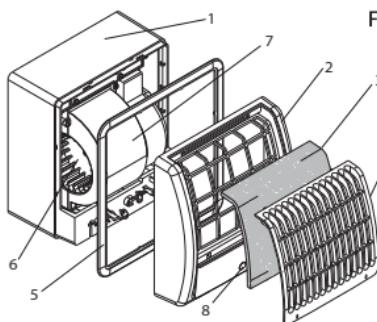
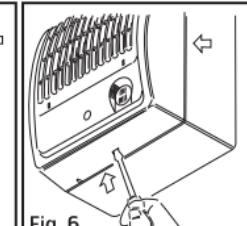
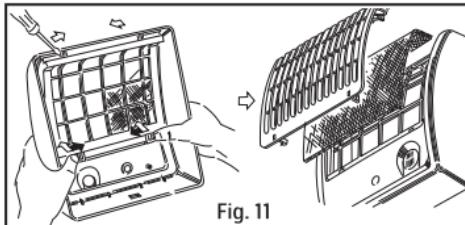

Fig. 4
Fig. 6
Fig. 11
6. When fitting in the recessed position, open the front of the fan by undoing the snap locks on the bottom, Fig. 6. The accompanying cabinet frame, Fig. 4, Item 5, should be fitted in the groove between the fan casing and the front in order to cover the opening in the wall/ceiling.
Open the front of the fan by undoing the snap lock on the bottom, Fig. 6. There are four snap locks on the back of the front. Squeeze these carefully so that the front grille opens, Fig. 11. Insert a new filter so that it covers the front grille. Assemble the front grille and fan front, Fig. 11